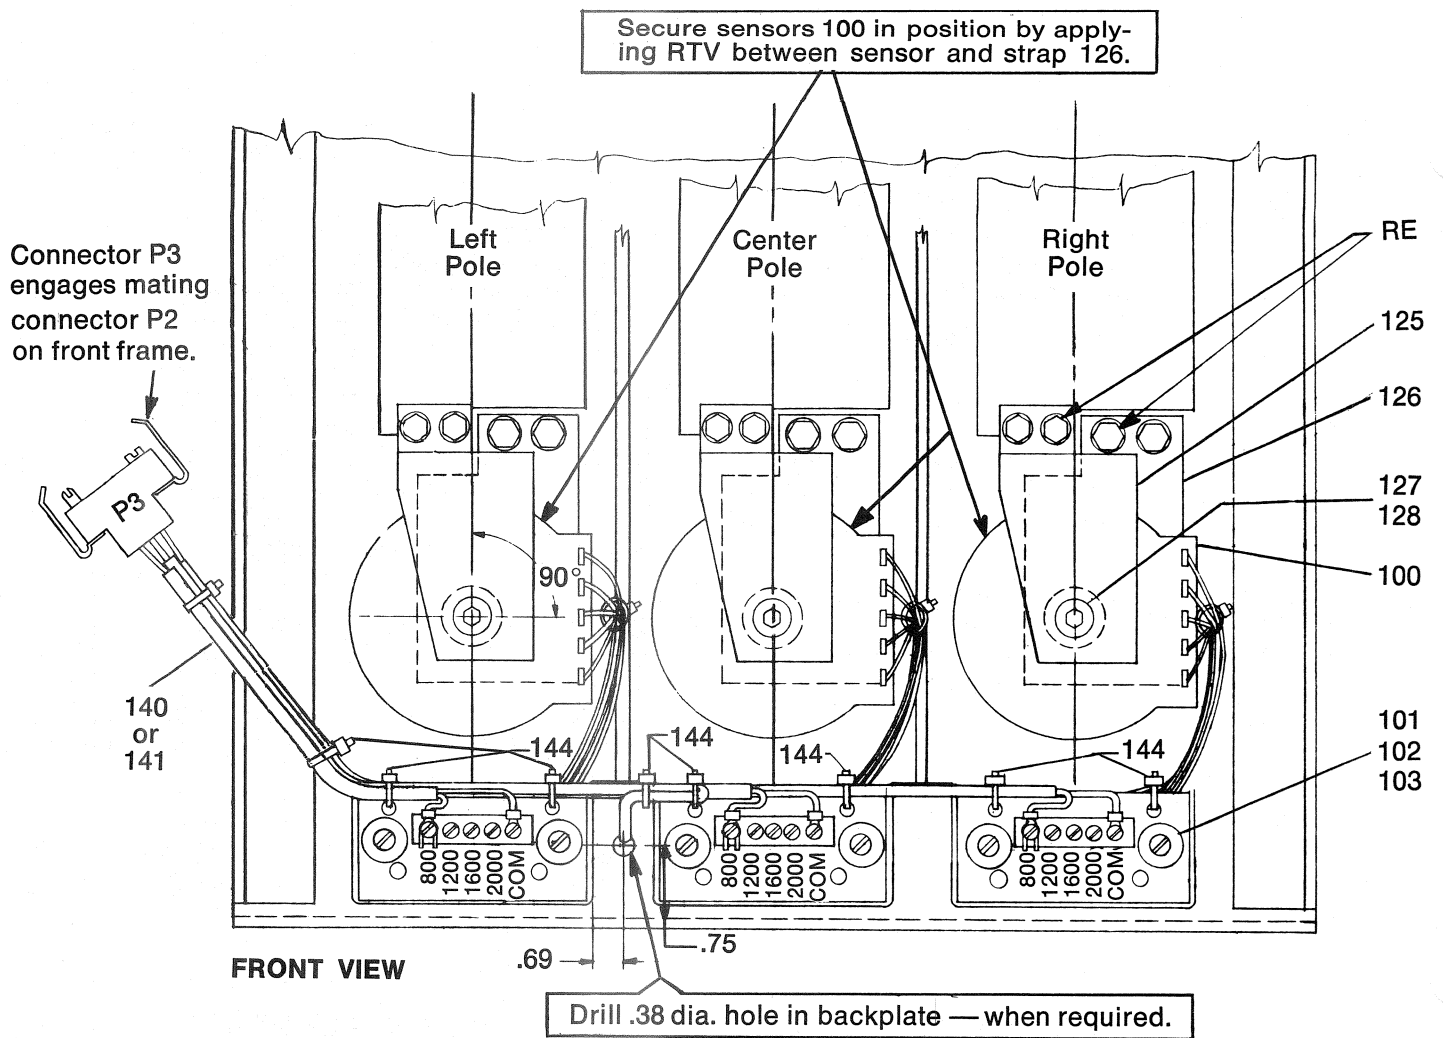

Fig. 12 — Converted back frame showing SST sensors, terminal boards and harness.
4. Install the back frame wire harness (part 140 or 141) per view B of connection diagram Fig. 16, 19 or 21, whichever applies; position each tap lead (black) on the ampere rating selected. Form and tie per Figs. 12 and 13.